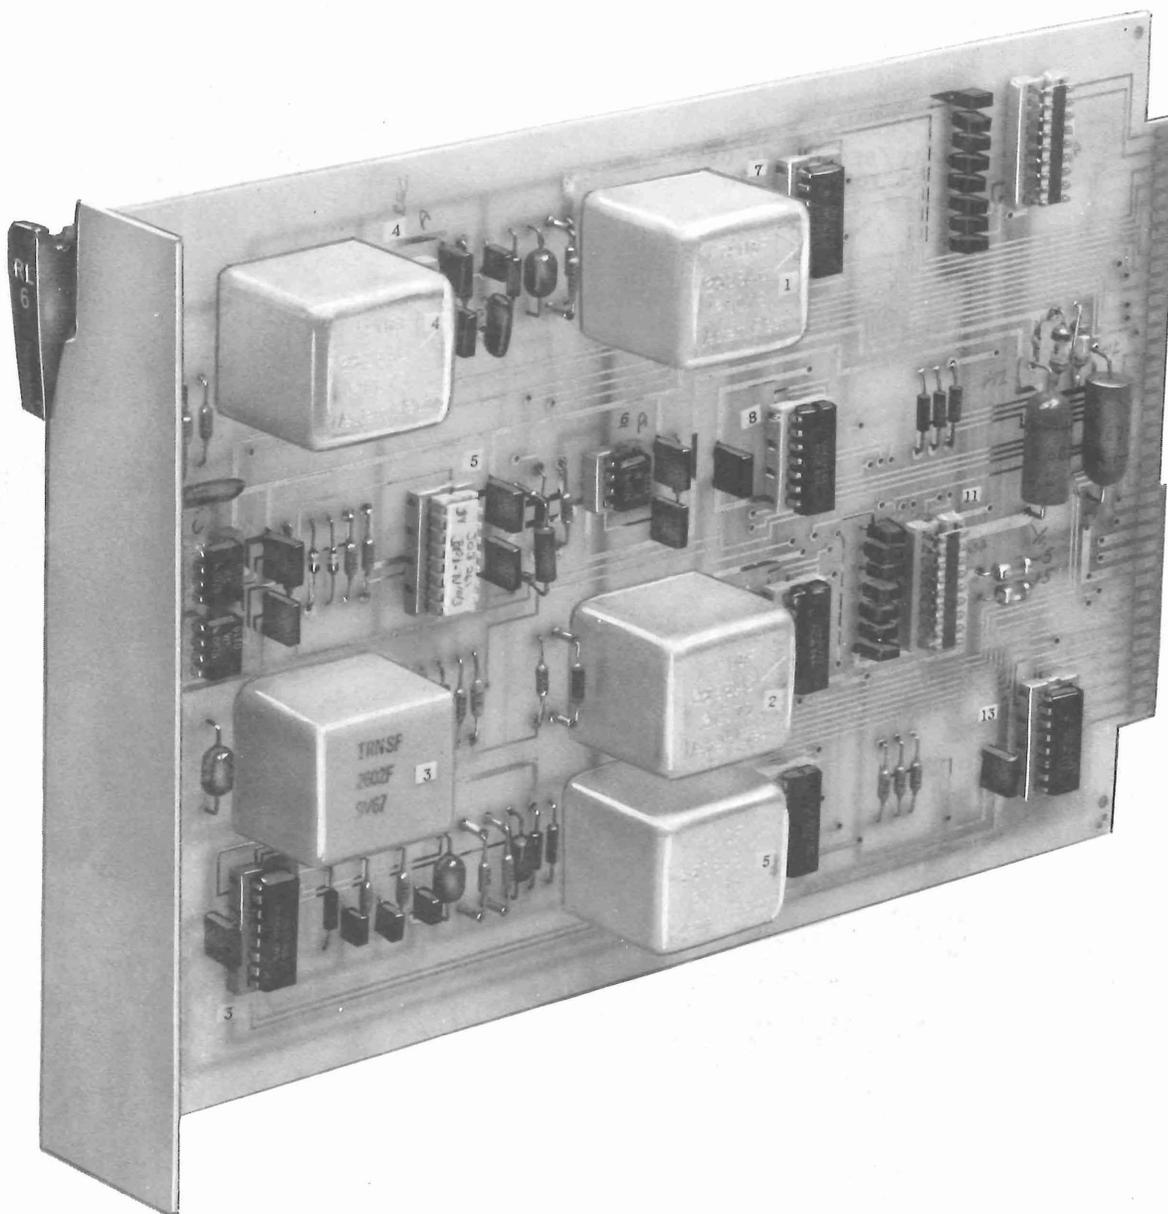

Fig. 8—RL6 CP—Expansion Control Circuit
2.07 RL6 CP (Fig. 8): The RL6 CP faceplate is bare. The circuit pack is 6-3/8 inches high, 1-3/8 inches wide, 10 inches deep, and weighs 1 pound.